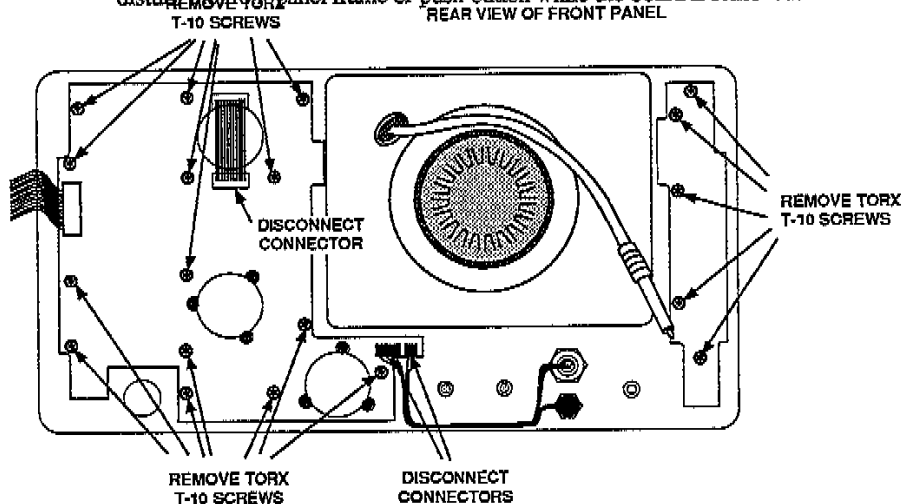

Figure 4-38. Front-panel board removal.
3. Remove the five Torx T-10 screws from the assembly as shown in Figure 4-38.
4. Disconnect the multi-pin connector that connects the FREQUENCY/MARKERS control to the board as shown in Figure 4-38.